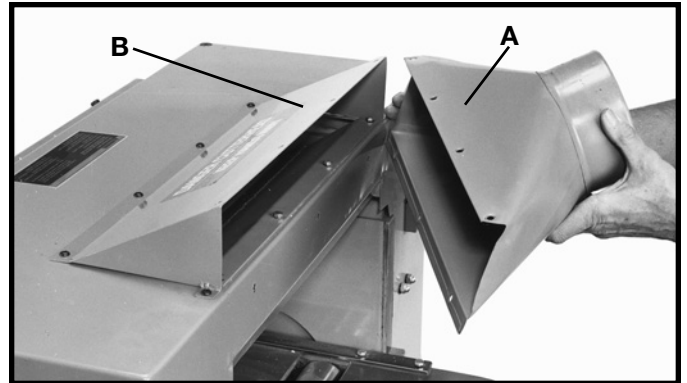
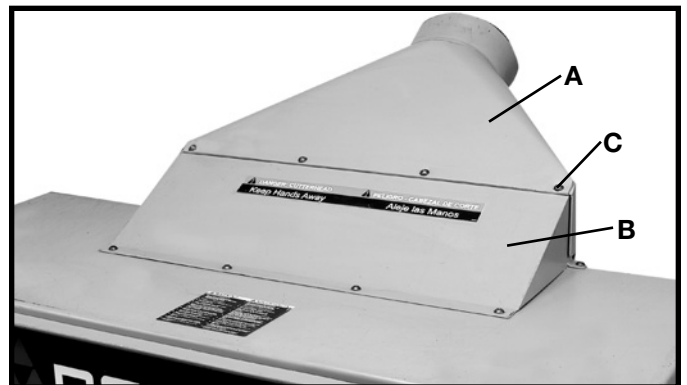

Fig. 8
Fig. 9
Position dust hood (A) Fig. 8, against the rear of the machine and on top of cutterhead guard (B). Align the holes and fasten the dust hood (A) Fig. 9, to the cutterhead guard (B) using seven M6x12mm button head screws (C), four of which are shown.